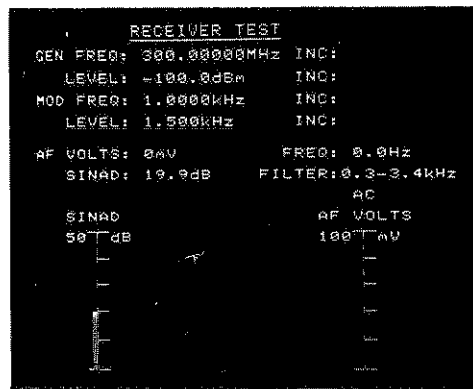

Fig. 3-6 Display following switch-on
- (1) Switch on both the 2955 and the Adapter. (There is no particular order of switching on). All 4 LEDs on the Adapter light and then go out after a pause. The RECEIVER TEST display appears on the screen as shown in Fig. 3-6. The LED lights above the 2955 key on the front panel of the Adapter. If one or more LEDs flash, this indicates a fault condition. (See 'Conditions indicated by LEDs' below).